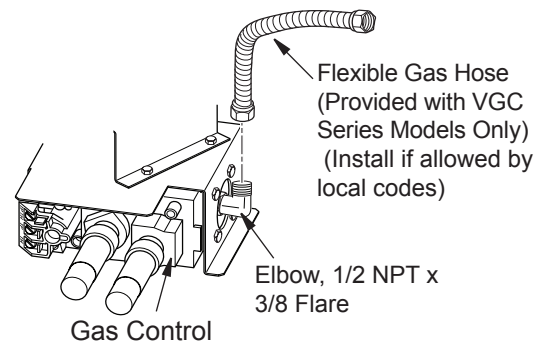

Figure 9 - Attaching Flexible Gas Hose to Appliance Gas Regulator
1. Apply pipe joint sealant lightly to male threads of the 1/2 NPT side of gas fitting elbow (provided) and connect to inlet side of gas control. Remove gas fitting from flexible gas hose (provided) before connecting to elbow (see Figure 9).
4. Disconnect gas line from appliance base as shown in Figure 9, Page 7.